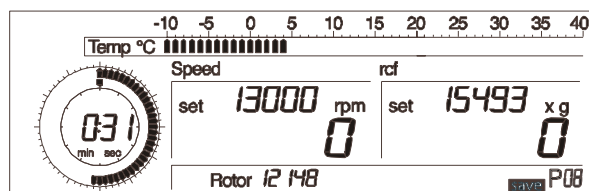

Fig. 5.21: Saving programs;
- Turn the left rotary knob until “save” appears on the display (Fig. 5.21).